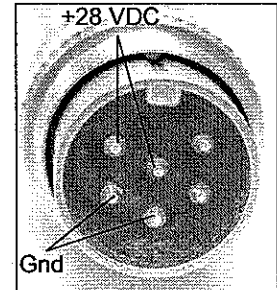

Figure 4-3a:
4. Using the digital voltmeter, measure the voltage on both pins shown in Figure 4-3a using one of the Gnd pins then repeat using the other Gnd pin. The reading should be between 24-32 VDC.